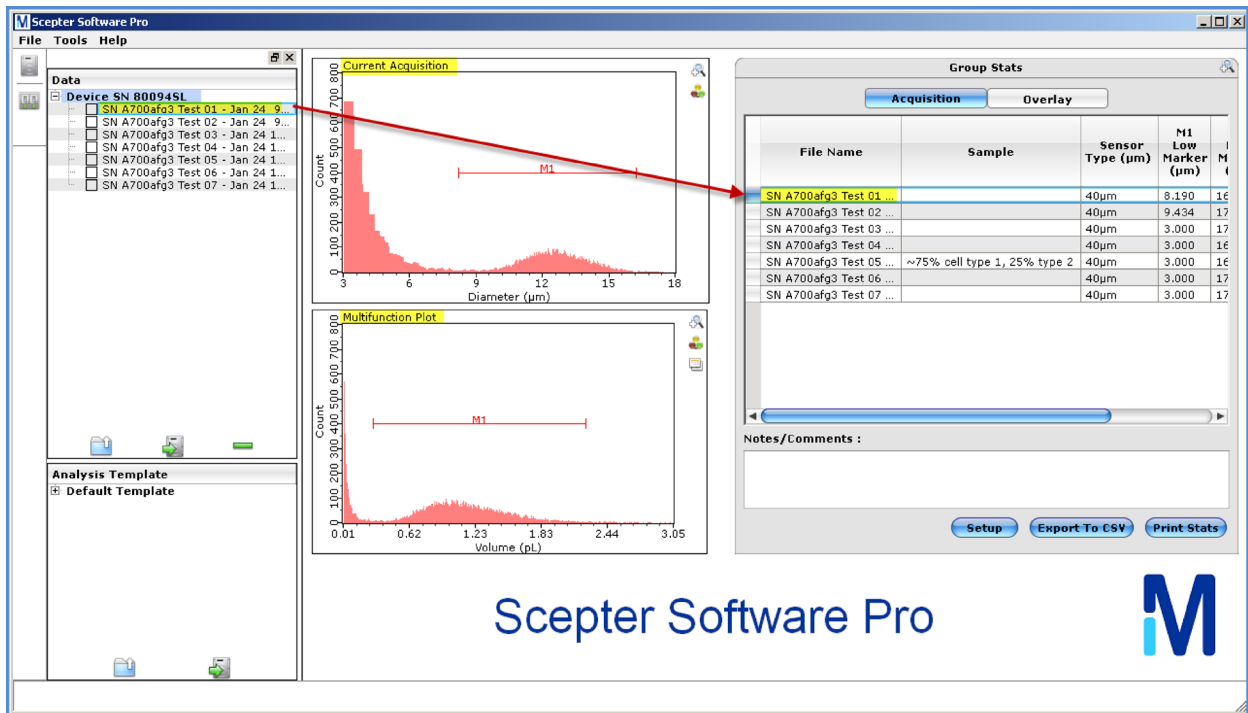

Figure 5. Data from a Scepter device with Test 01 highlighted
4. Click **OK** to initiate the connection and to upload test files. If the Scepter device is "asleep" or if it is accessing histograms, settings, or help screens, Scepter Software Pro displays an error message, and the connection is aborted. Once connected, the name of the device (**DEVICE-Scepter SN**) appears in the Data panel, with the uploaded test files listed below the device name. Test 01 is highlighted and its data is displayed in both the Current Acquisition and Multifunction Plots. Statistics for the entire data set are shown in the Group Stats window, in the Acquisition table (Figure 5).